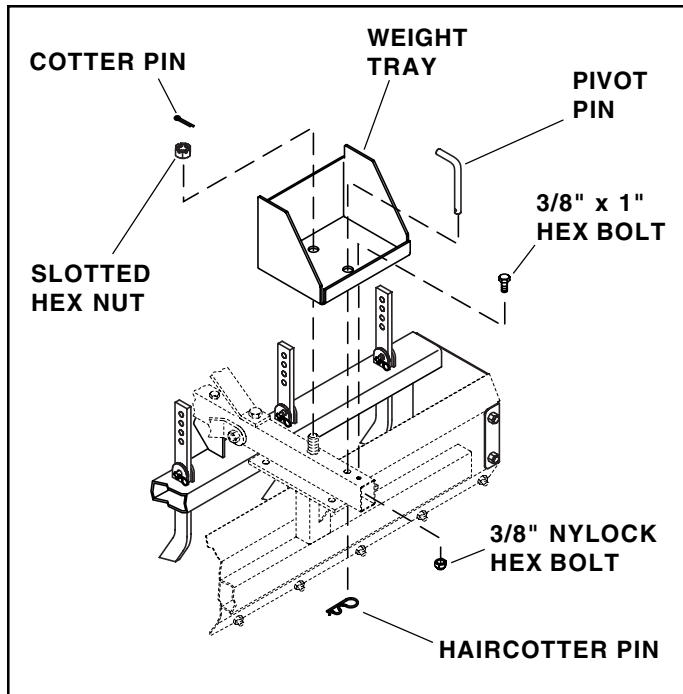

FIGURE 4
4. Remove the pivot pin and the slotted hex nut from the mast assembly as shown in figure 4. Attach the weight tray to the end of the mast assembly using a 3/8" x 1" hex bolt and a 3/8" Nylock hex nut. Tighten nut and bolt.
5. Reinstall the slotted hex nut onto the threaded stud. Tighten the slotted nut, aligning a slot with the drilled hole in the stud. Reinstall the cotter pin through the hole in the stud. See figure 4.
6. Reinstall the pivot pin and secure the it with the haircutter pin. See figure 4.